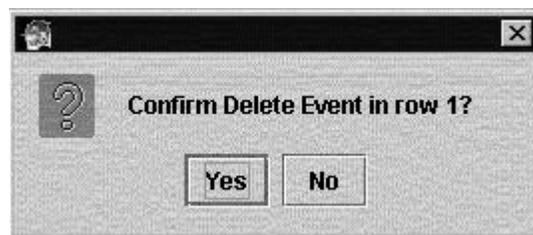

Figure 10-2: Confirm Delete Device Event Dialog
2. Click **DELETE**. The Select an Option dialog displays. See Figure 10-2.